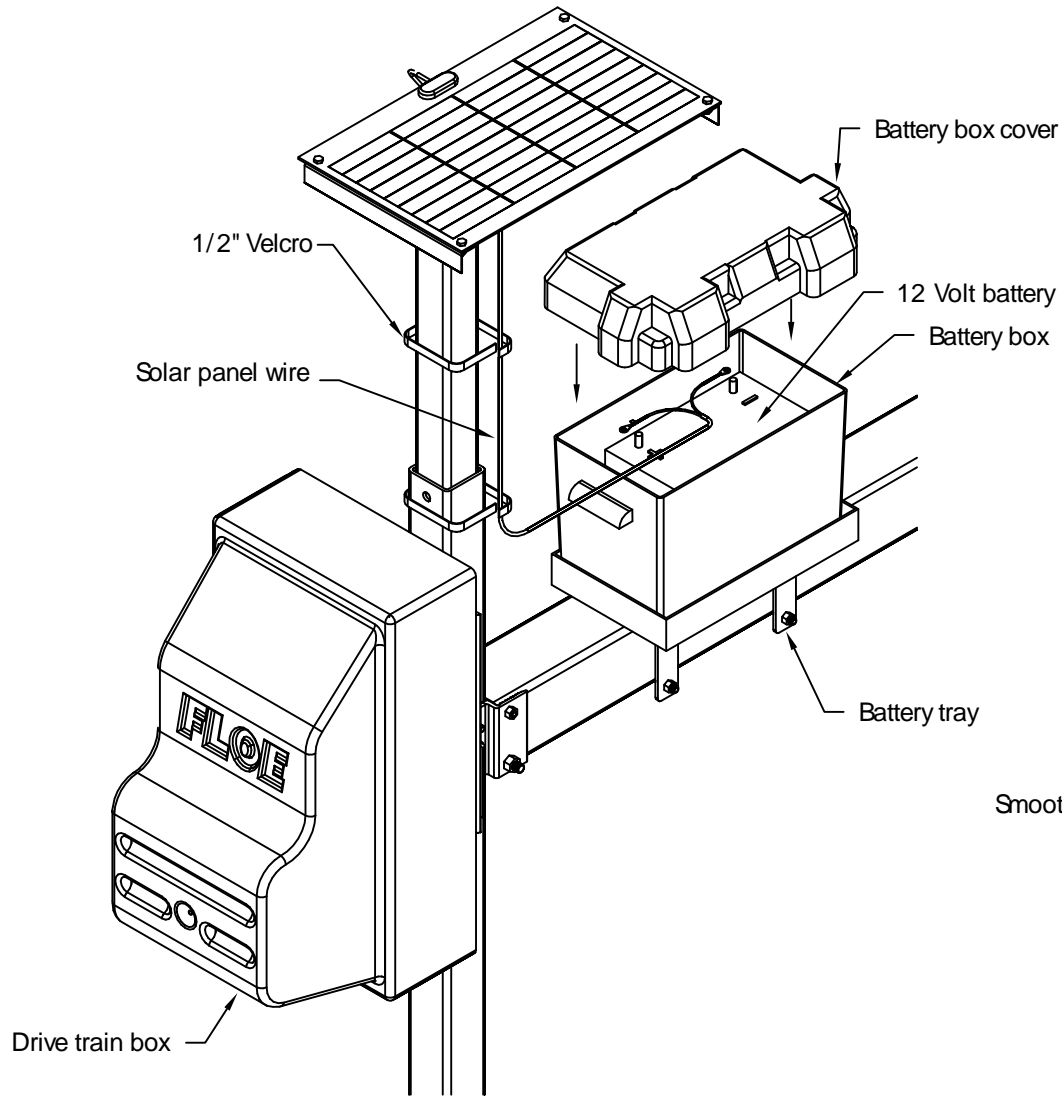

Fig. 3
3. Run the solar panel wire down the corner post insert (on the drive train corner) and to the battery tray. Cut the 1/2" Velcro to lengths needed to secure the wire to the insert. Place the battery in the battery box and set on the battery tray. See Fig. 3.